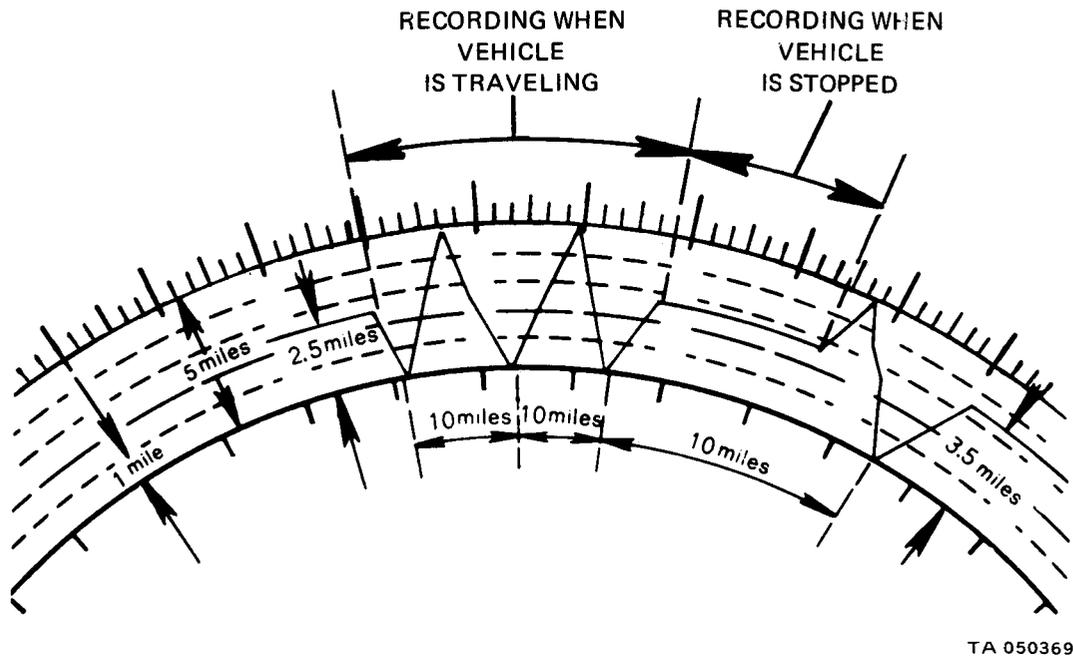

Figure 20-5. Distance Traveled Recordings
(3) Distance recording field. The distance recording field (Fig. 20-5) below stop and go field is divided by five circles. The space between each circle is equal to driving exactly one mile. The distance recording stylus records how many miles were driven in how much time. One complete upward and downward line means the truck was driven ten miles. Thin straight lines show truck was stopped and for how long it was stopped.